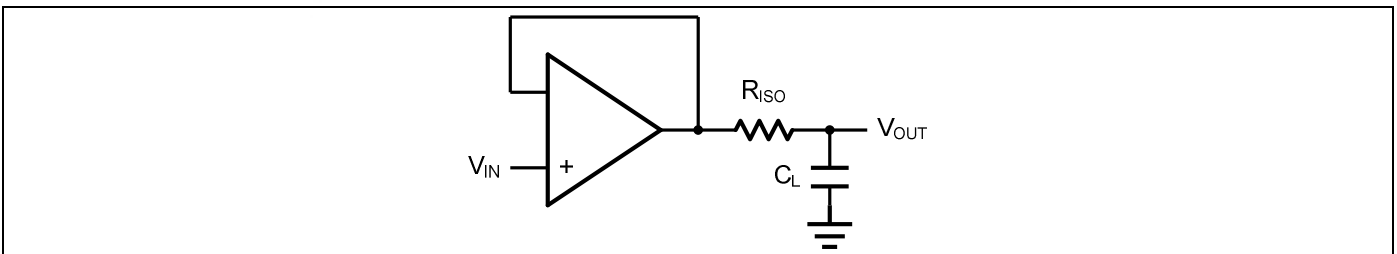
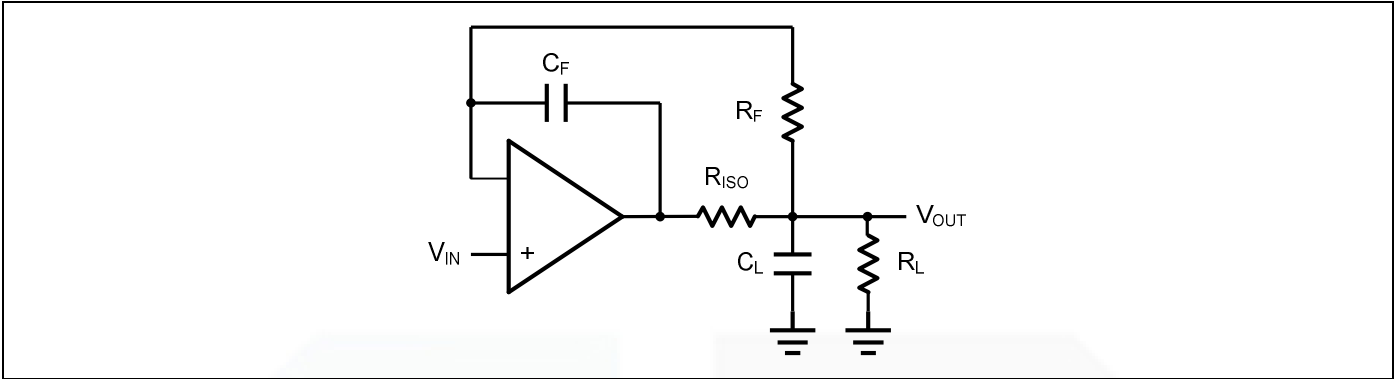

Figure 2. Indirectly Driving a Capacitive Load Using Isolation Resistor
Figure 3. Indirectly Driving a Capacitive Load with DC Accuracy
The GS8541 family is optimized for bandwidth and speed, not for driving capacitive loads. Output capacitance will create a pole in the amplifier's feedback path, leading to excessive peaking and potential oscillation. If dealing with load capacitance is a requirement of the application, the two strategies to consider are (1) using a small resistor in series with the amplifier's output and the load capacitance and (2) reducing the bandwidth of the amplifier's feedback loop by increasing the overall noise gain. Figure 2. shows a unity gain follower using the series resistor strategy. The resistor isolates the output from the capacitance and, more importantly, creates a zero in the feedback path that compensates for the pole created by the output capacitance.
The circuit in Figure 3 is an improvement to the one in Figure 2.  $R_F$  provides the DC accuracy by feed-forward the  $V_{IN}$  to  $R_L$ .  $C_F$